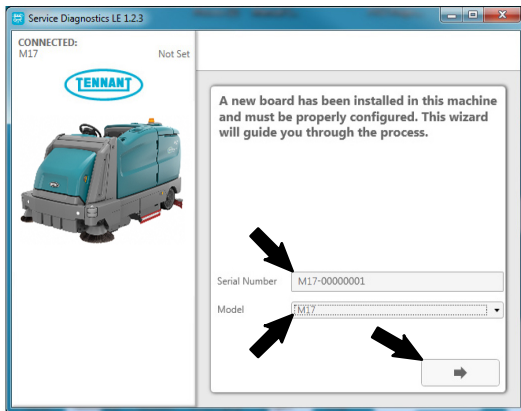

FIG. 20
- The following screen appears when the application software is connected to machine (Fig. 20). Enter the machine serial number from the label on machine (ex. M17-12345678). Select the appropriate model from the drop-down menu. Press the arrow button to advance to next screen.